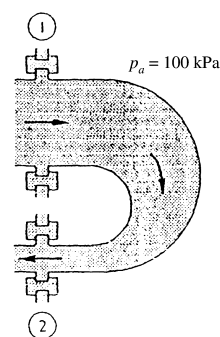

Fig. P3.77
**3.77** Water at  $20^\circ\text{C}$  flows steadily through a reducing pipe bend, as in Fig. P3.77. Known conditions are  $p_1 = 350 \text{ kPa}$ ,  $D_1 = 25 \text{ cm}$ ,  $V_1 = 2.2 \text{ m/s}$ ,  $p_2 = 120 \text{ kPa}$ , and  $D_2 = 8 \text{ cm}$ . Neglecting bend and water weight, estimate the total force which must be resisted by the flange bolts.